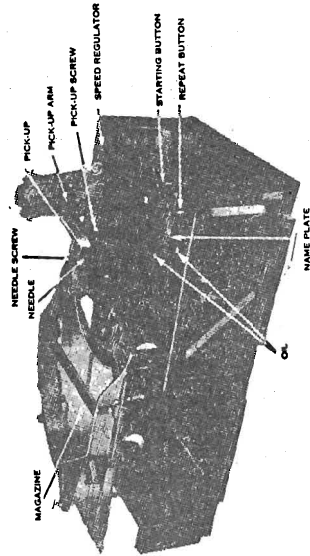

FIGURE 5
In case it is desired to play the same record over, the repeat Button *figure 5* is moved to the left. This moves Repeat Lever 809 *figure 2* causing it to press against Drive Dog 622 causing the Dog to recede and not catch on Eject Drive Arm 790. Eject Drive Arm 790 remains stationary and the Eject Slide does not move. The Cam revolves and the Turntable goes through all of the elevating positions except the discard elevation. Eject Arm 790 does not allow Roller 845 to drop to the discard elevation in Cam 789 *figure 1*, thus the record will be repeated until the Repeat Lever is moved to the right.
In starting or rejecting records, the Starting Button *figure 5* is pressed. When this Button is pressed slightly, it causes the contacts in switch 897-A *figure 2* to be spread apart which changes the fields in the motor from a series connection to a parallel connection for a greater starting torque. Pressing down further causes Lever 662 *figure 2* to act against Throwout Lever Trip 814 and trip mechanism which discards the record. This is the same action as though it were tripped with the Dogs 813 or 814.
upper side of the motor board *figure 5* are two (2) pipe plugs marked "OIL." Remove these plugs and inject a quantity of oil in the tubes under them. This lubricates both armature shaft bearings. The wick type oil wells used on the bearings keep the bearings well lubricated for a six (6) months period of normal operation.